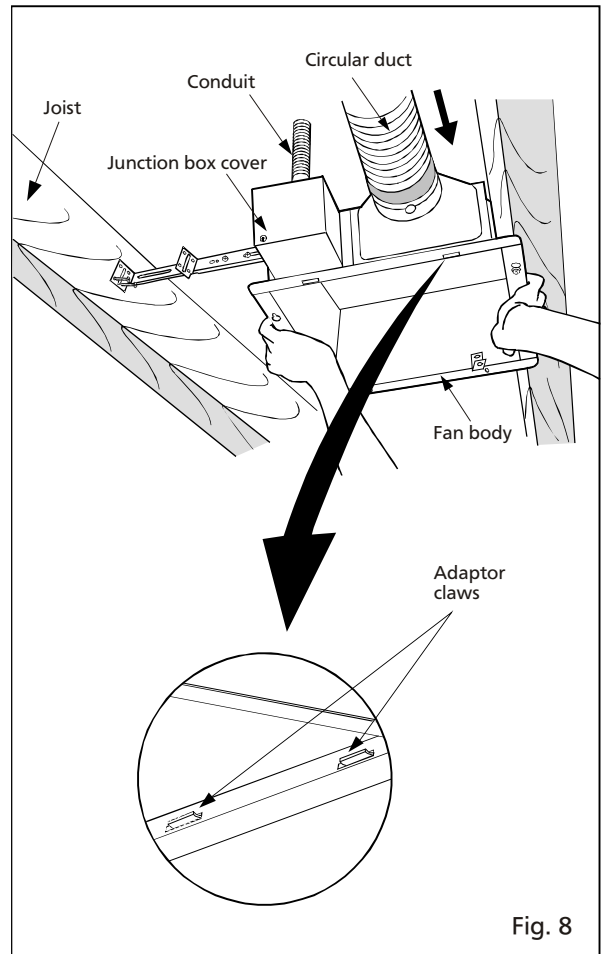

Fig. 8
5. Insert the fan body into joists. (Fig.8)